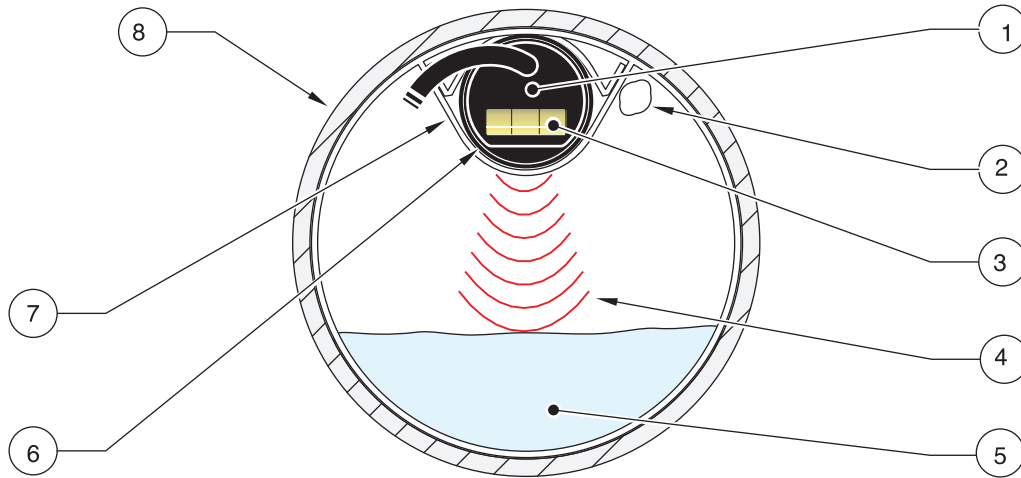

Figure 27 End View of In-Pipe
- Mount the sensor over the center of the flow stream where the surface turbulence is minimized (Figure 27 on page 50).